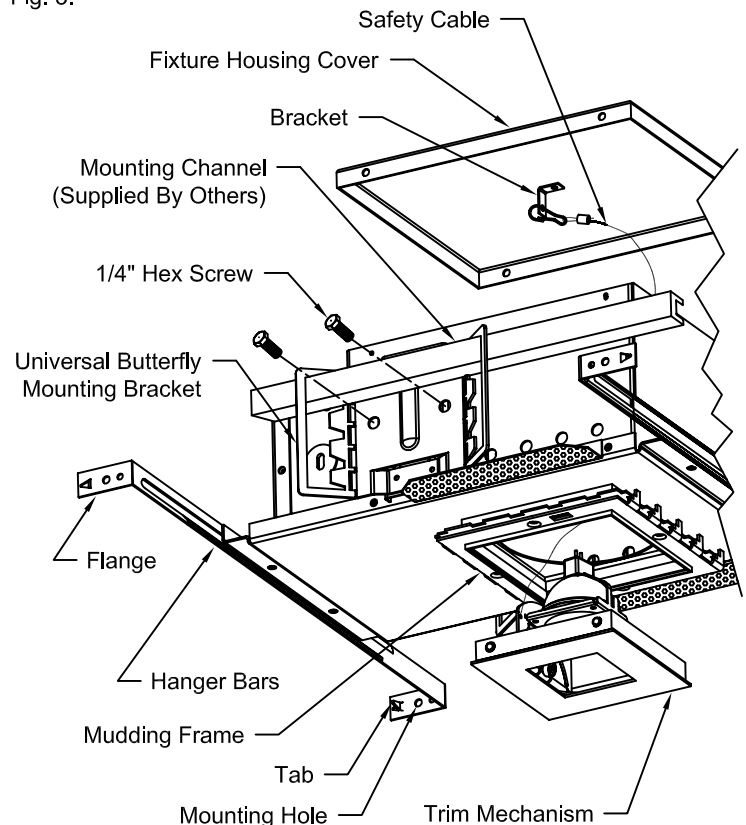
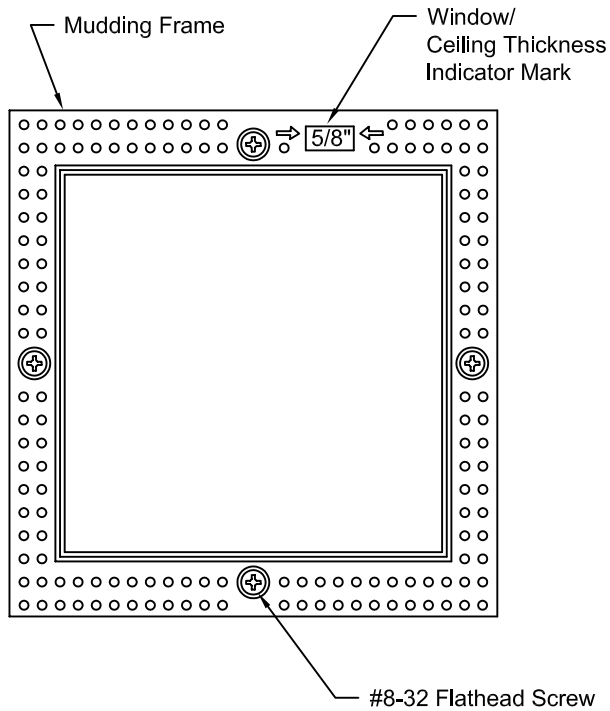
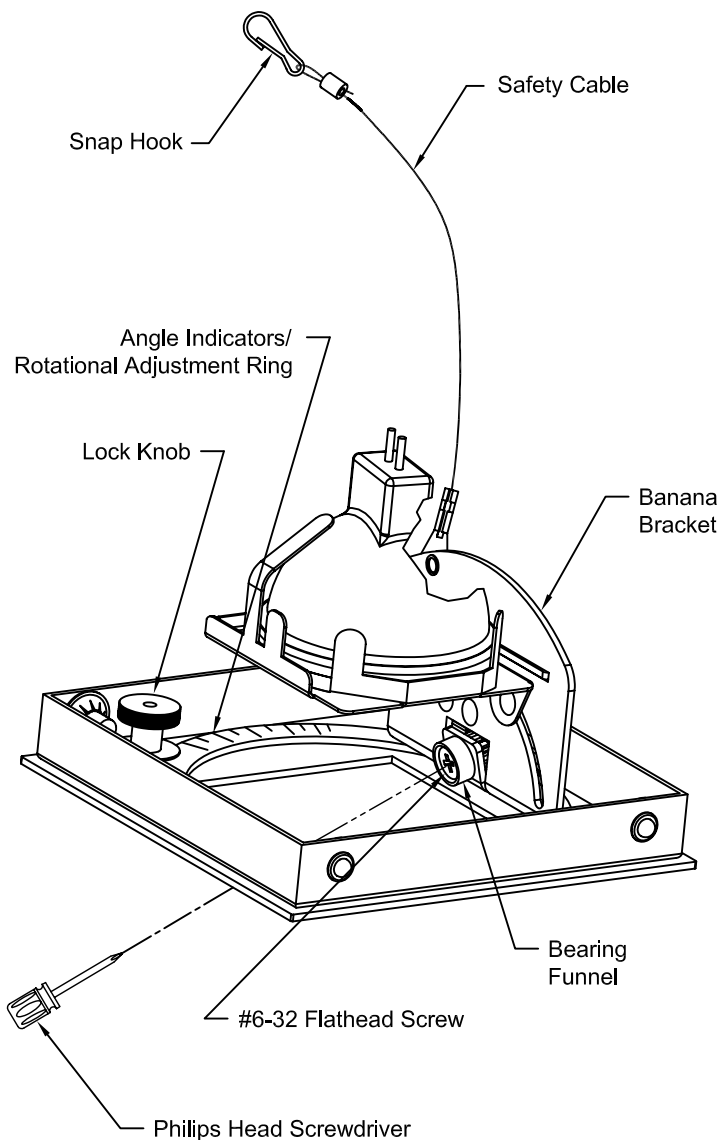

Figure 1
Figure 2
Figure 5
1. Fixture comes equipped with Universal Butterfly Mounting Brackets and can take common 1 inch or 1-1/2 inch Black Iron or Galvanized Mounting Channels (Supplied By Others). See Fig. 1.
3. Hammer Flanges to seat Hanger Bar Tabs in rafters. See Fig. 1.
4. Secure Hanger Bars using one (1) nail in Mounting Hole in each Flange.
5. Mudding Frame is sent unmounted from factory. Adjust Mudding Frame to applicable Ceiling thickness (1/2", 5/8", 3/4", 1") by rotating in 90° increments until desired Ceiling Thickness Indicator Mark shows through Window in Mudding Frame. See Fig. 2.
6. Secure Mudding Frame using four (4) #8-32 x 1/2 inch Flathead Screws (for 1/2 inch, 5/8 inch and 3/4 inch Ceiling thickness) or four (4) #8-32 x 3/4 inch Flathead Screws (for 1 inch Ceiling thickness).
7. Adjust elevation of Fixture so Mudding Frame Edge will be flush with surface of finished Ceiling by loosening two (2) 1/4 inch Hex Screws on both Universal Mounting Brackets. See Fig. 1.
8. Tighten two (2) 1/4 inch Hex Screws on both Universal Butterfly Mounting Brackets to secure Fixture. See Fig. 1.
1. Connect Safety Cable attached to Banana Bracket on Trim Mechanism (See Fig. 1 & Fig. 5) to Fixture by inserting Safety Cable through opening in Fixture and inserting Snap Hook (See Fig. 5) on end of Safety Cable into hole in Bracket attached to inside of Fixture Housing Cover (See Fig. 1).
1. With power ON and Trim Mechanism in place, Insert Phillips Head Screwdriver through Hole or Slot in Trim into Bearing Funnel. See Fig. 5.
2. To re-aim Lamp, turn #6-32 Flathead Screw to desired position using visual Angle Indicators on Banana Bracket. See Fig. 5.